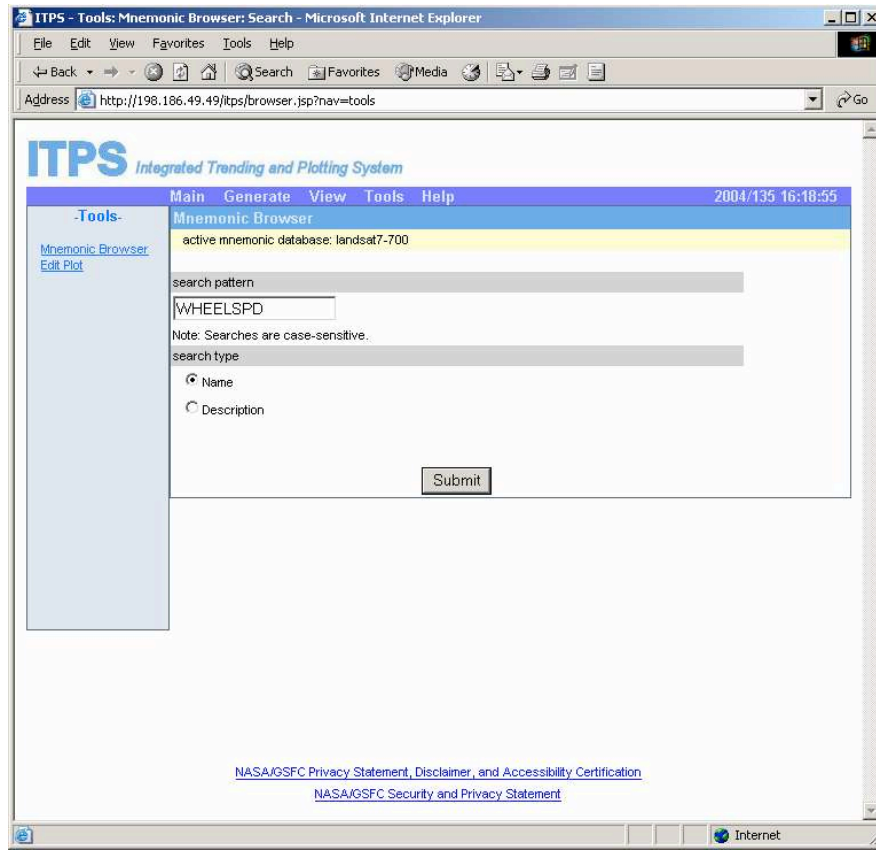

Figure 138: Mnemonic Browser Search Screen
- Click on the “Mnemonic Browser” link on the left menu panel (*see Figure 138*).